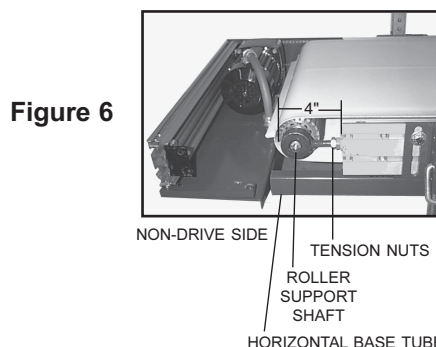

Figure 6
- 12) Remove plate on non-drive side (**see Figure 6**).